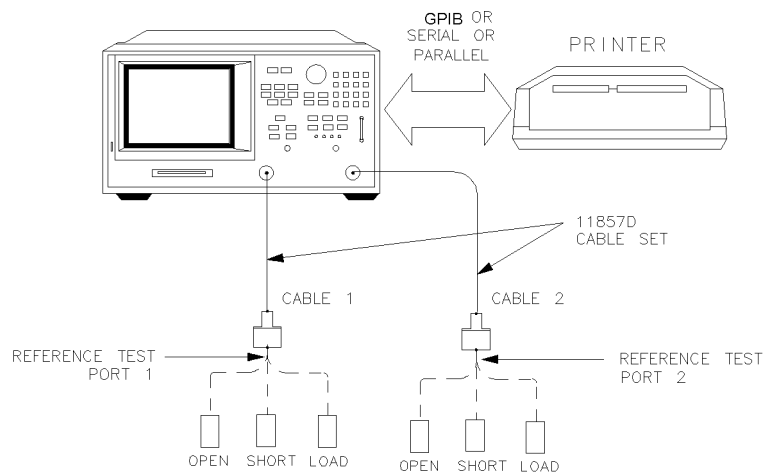

Figure 3-1. System Verification Test Setup
- 1 Connect the equipment as shown in Figure 3-1. Let the Agilent 8702D warm up for one hour.
- 5** Connect the “open” end of the open/short combination (supplied in the calibration kit) to reference test port 1, as shown in Figure 3-1.
- 11** When the Agilent 8702D finishes measuring the standard, connect the “open” end of the open/short combination to reference test port 2, as shown in Figure 3-1.